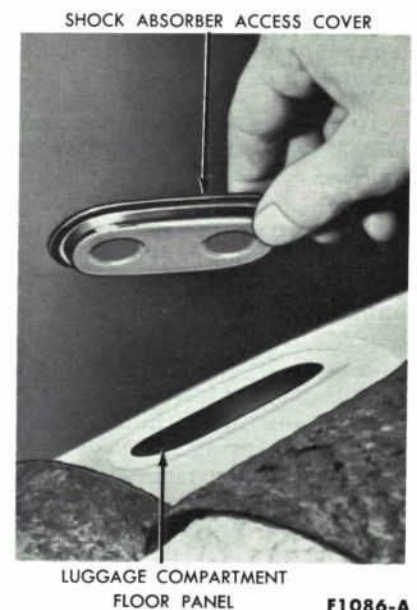

FIG. 106—Rear Shock Absorber Access Cover
2. On the passenger car, remove the shock absorber access cover from the luggage compartment (Fig. 106). On the Ranchero, remove the retaining screws, and lift the forward half of the floor panel from the body; then remove the access cover from the opening in the floor pan over the shock absorber. On station wagons, remove the access cover from the opening in the seat riser over the shock absorber.